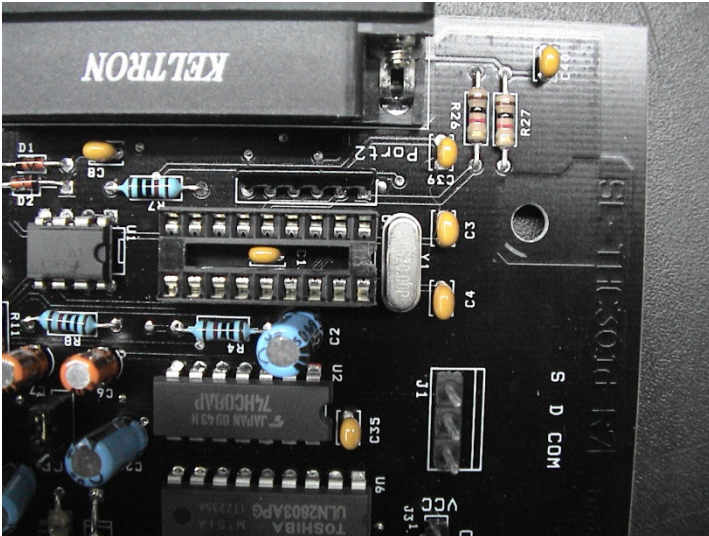

Figure 6 - Showing empty PIC Socket
- Figure 6 below shows the empty PIC socket after removal.